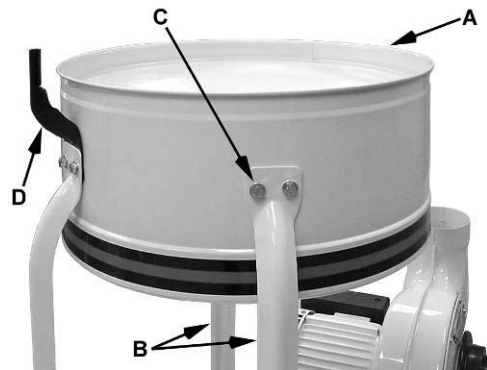
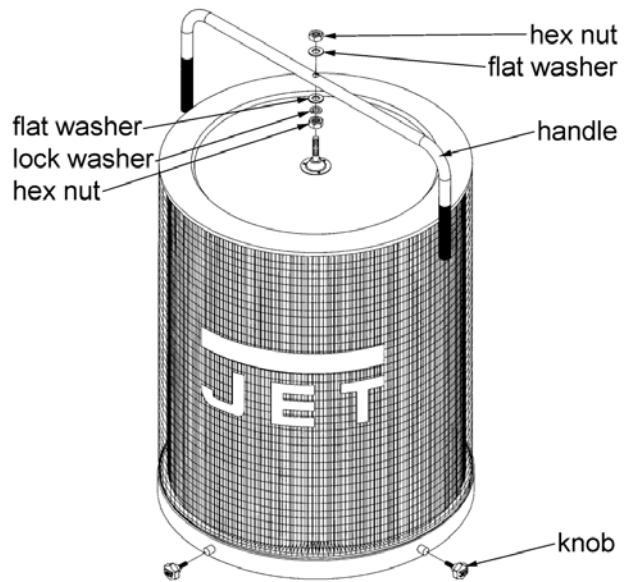

Figure 5
Figure 9
6. Install the *housing* (A, Fig. 5) to two *support legs* (B, Fig. 5) using four M8 x 16 hex cap bolts, eight M8 flat washers, and four M8 hex nuts (C, Fig. 5). *Be sure hose opening faces fan housing.*
**Note:** For filter bag models only – Before attaching third support bracket place the *hanger bracket* (D, Fig.5) between the support bracket and the housing. This action is not necessary for canister filter units.
1. Mount the handle onto the canister filter with two M10 hex nuts, two M10 flat washers, and a M10 lock washer (Figure 9).
2. Mount the canister filter on top of the *collector housing* (A, Fig. 5) and tighten the knobs on the *canister filter* (Figure 9).